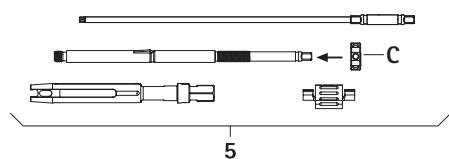

Fig. 11
- ▶ Screw lock nut C onto the inner sleeve, see Fig. 11.